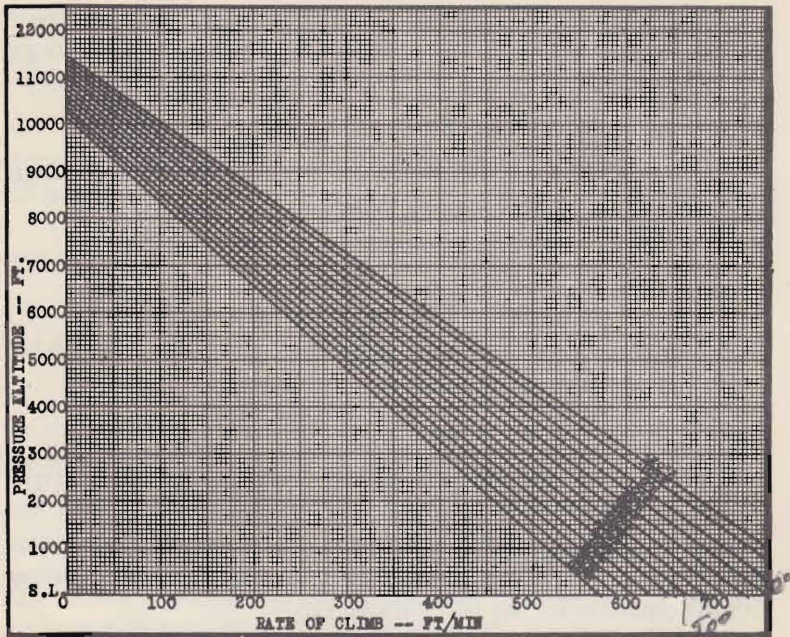

Figure 13—Rate of Climb
41. Climbing characteristics of the airplane at altitudes are shown on Figure 13. The data from which these curves were derived was obtained during the CAA Certified Flight Tests conducted under the following conditions: